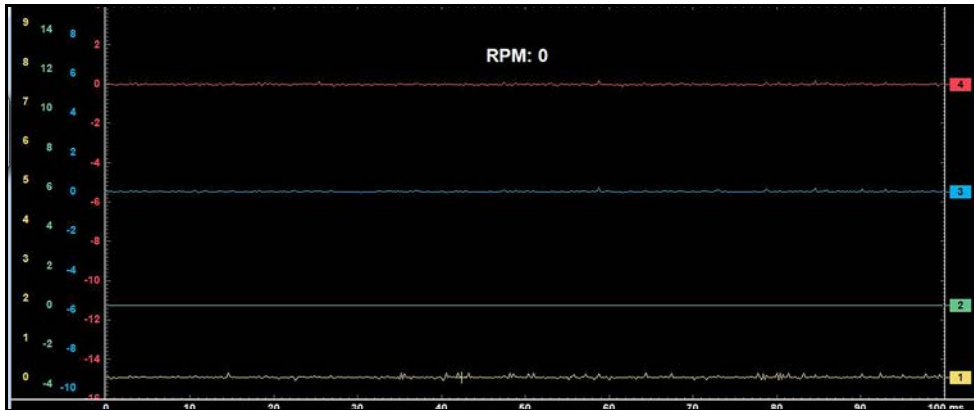

Figure 8-15 Sample Show RPM selected
- **Show RPM**—adds an engine speed field at the top of the screen (Figure 8-15).